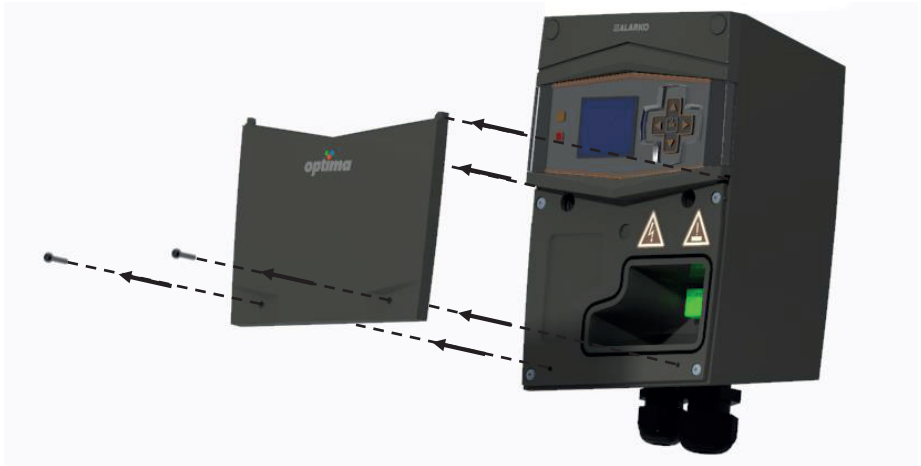

Figure 6.9: Removal of the Bottom Cover
4. Remove the screws of the bottom cover. See Figure 6.9.